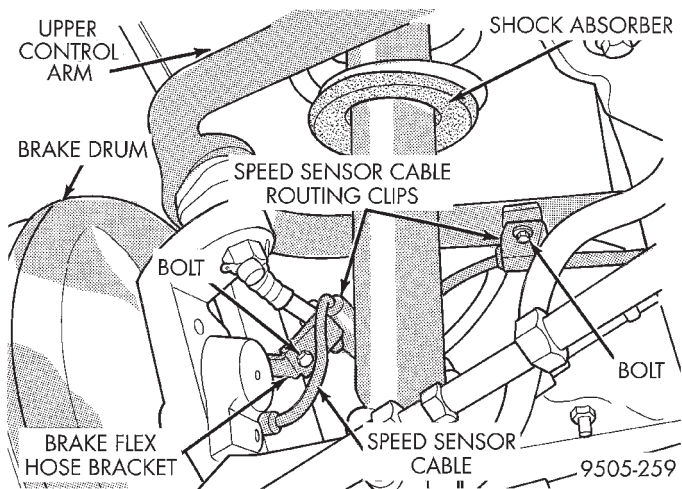

Fig. 9 Rear Wheel Speed Cable Routing And Attachment
(1) Raise vehicle on jackstands or centered on a frame contact type hoist. See Hoisting in the Lubrication and Maintenance section of this manual, for the required lifting procedure to be used for this vehicle.
(2) Remove the rear wheel and tire assembly from the vehicle.
(3) Remove rear brake drum from rear hub and bearing assembly.
(4) If vehicle is equipped with antilock brakes remove the rear wheel speed sensor from the brake support plate and brake flex hose routing bracket (Fig. 9).
(7) Attach routing bracket for speed sensor cable to brake flex hose bracket and securely tighten attaching bolt (Fig. 9).
(8) Install park brake cable into brake support plate. Ensure cable retainer is securely holding cable to support plate. Then connect park brake cable to park brake lever on brake shoe.
(9) Install rear hub and bearing assembly on knuckle and install hub and bearing assembly retaining nut. Tighten retaining nut to a torque of 250 N·m (185 ft. lbs.).
(10) Install the brake drum on the hub/bearing assembly.
(11) Install wheel and tire assembly on vehicle. Tighten the wheel mounting stud nuts in proper sequence until all nuts are torqued to half specification. Then repeat the tightening sequence to the full specified torque of 135 N·m (100 ft. lbs.).
(12) Lower vehicle.
(13) Check and reset rear wheel alignment to specifications if required. Refer to Front And Rear Alignment Setting Procedure in the Wheel Alignment Check And Adjustment section in this group of the service manual for the required alignment setting procedure.